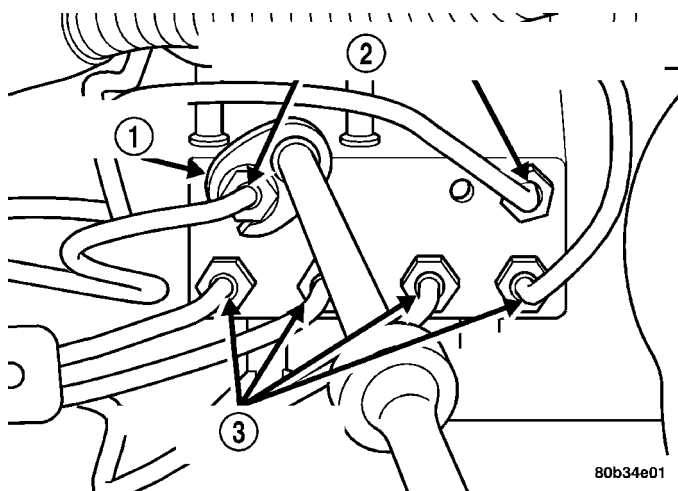

Fig. 17 Brake Tube Fittings
(8) Remove the primary and secondary brake tubes coming from the master cylinder, at the HCU, using a crow foot wrench (Fig. 17).
(9) Remove the chassis brake tubes at the HCU (Fig. 17), using a crow foot wrench.
(6) Install the 4 chassis brake tubes on the HCU (Fig. 17). Tighten the chassis brake tubes to 17 N·m (145 in. lbs.).
(7) Install the primary and secondary brake lines from the master cylinder on the HCU (Fig. 17). Tighten the primary and secondary brake tubes to 17 N·m (145 in. lbs.).